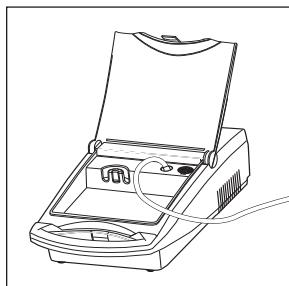

Figure 2
5. Connect one end of the nebulizer tubing to the compressor air-outlet connector (Fig. 2 or 3).